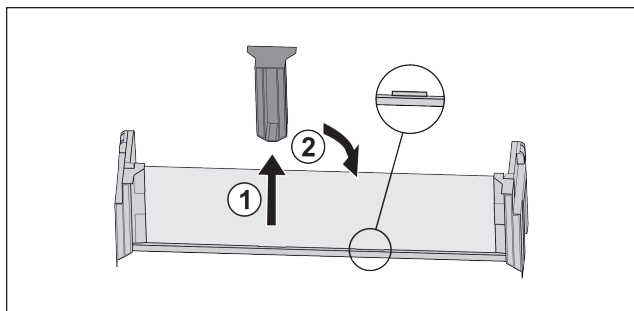

Fig. 114
- Pull off the middle holder Fig. 114 (1).
- Insert the middle holder in the second position Fig. 114 (2).